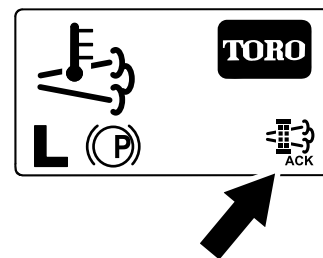

Figure 84
8. The InfoCenter displays the home screen and the regeneration acknowledge icon (Figure 84) appears in the lower right corner of the screen as the regeneration processes.